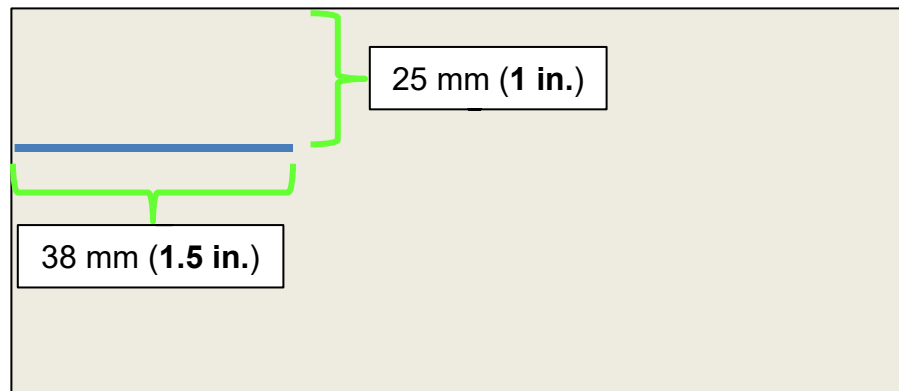

Figure 25
32. On the foil side of one (1) of the three (3) Butyl Patches, measure and mark a line, as shown in Figure 25, and then using scissors cut along the line.